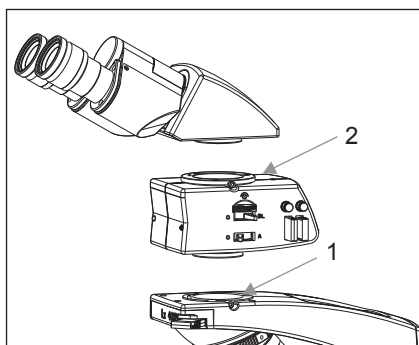

Fig.15
1. Using the 3mm allen wrench (provided), loosen the Head Locking Screw (1) and remove the dust cover cap provided in the dovetail cavity.
2. Mount the Analyzer attachment by engaging the dovetail provided on the attachment into the dovetail cavity on the microscope arm and tighten the Head Locking Screw (1) See figure 15.
4. Tighten the Head Locking Screw (2) after positioning the Observation Head as desired. See figure15.